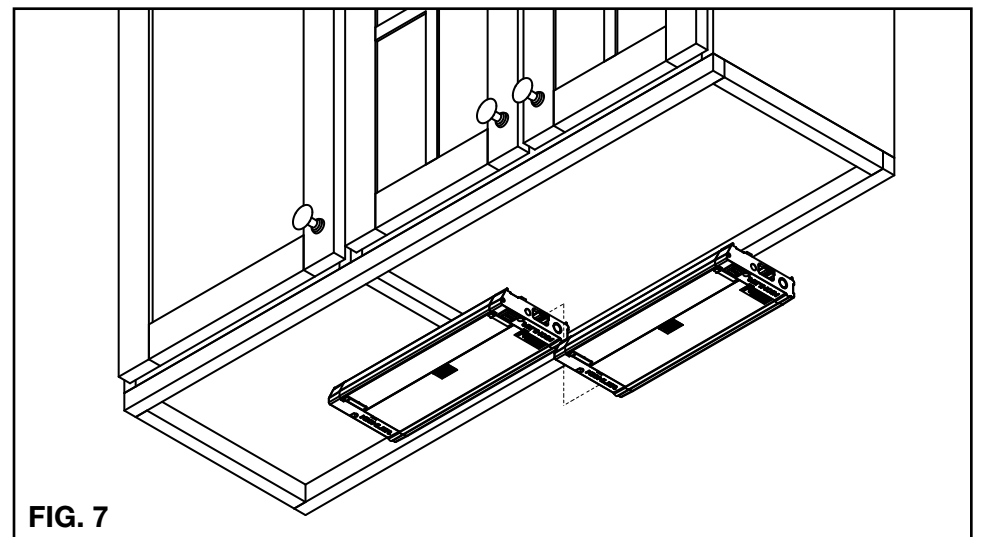

FIG. 7
2. Align connector on end of new fixture with connector on end of existing fixture. (ref. FIG. 7)